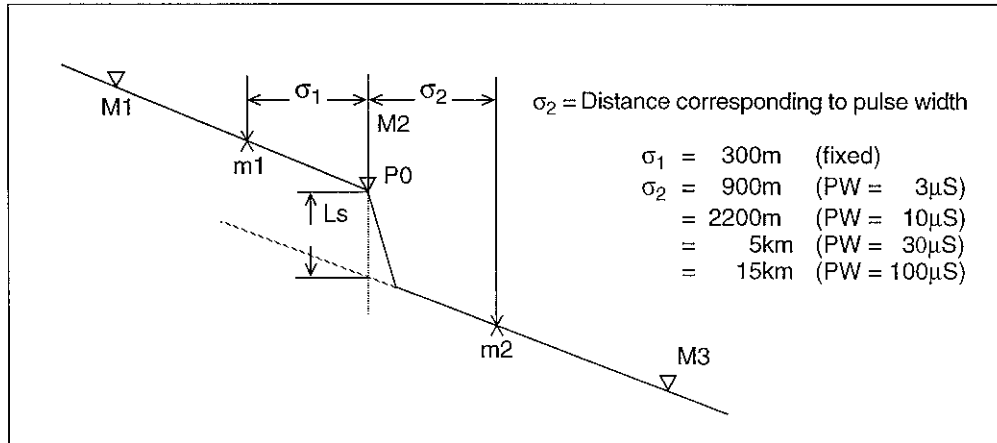

Figure 3-15 Splice Loss Indication Measurement
- ① As shown in Figure 3-15, set the M2 at a splice change point. Then set the M1 and M3 markers at any two points of both fibers with the splice point as the center.
- ② After the three markers are set, set the m1 at a distance of  $\sigma_1$  and m2 at a distance of  $\sigma_2$  from the center of the M2 to calculate internally using the method of least squares. The m1 and m2 are displayed on the screen as X.
- ③ The intersections of the marker M2 and the extension line calculated in the least squares approximation from the distance data between M1 and m1 and between M3 and m2 are set as P0 and P1. The level difference between the P0 and P1 is referred as the splice loss.
- ④ After the M3 is set, pressing the MARKER SELECT key displays the M1, M2 and M3 markers, and they can be moved with their interval fixed.